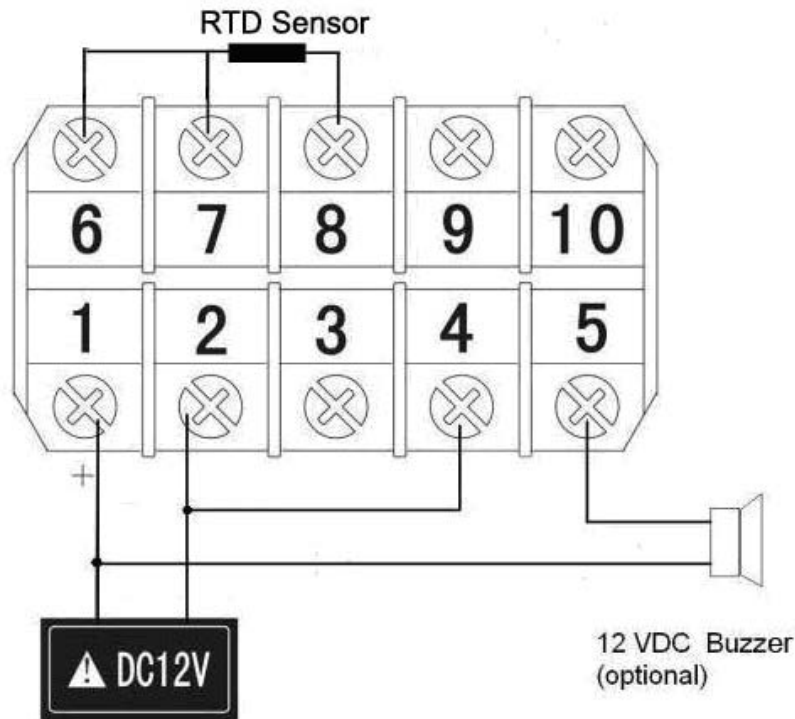

Figure 1. Wiring diagram for PT100A-NPT
- 2) To operated it, connect 12 VDC to terminal 1 (+) and 2 (-). Connect the RTD sensor which has three wires/connectors. Two connectors have same color and one has different color (for example, two red connectors and one blue connector). Connect the two same color connectors to terminal 6 and 7, and connect the different one to 8 as shown in Figure. 1